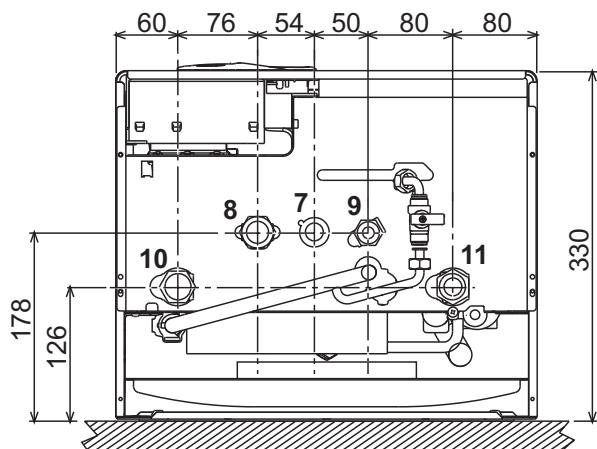
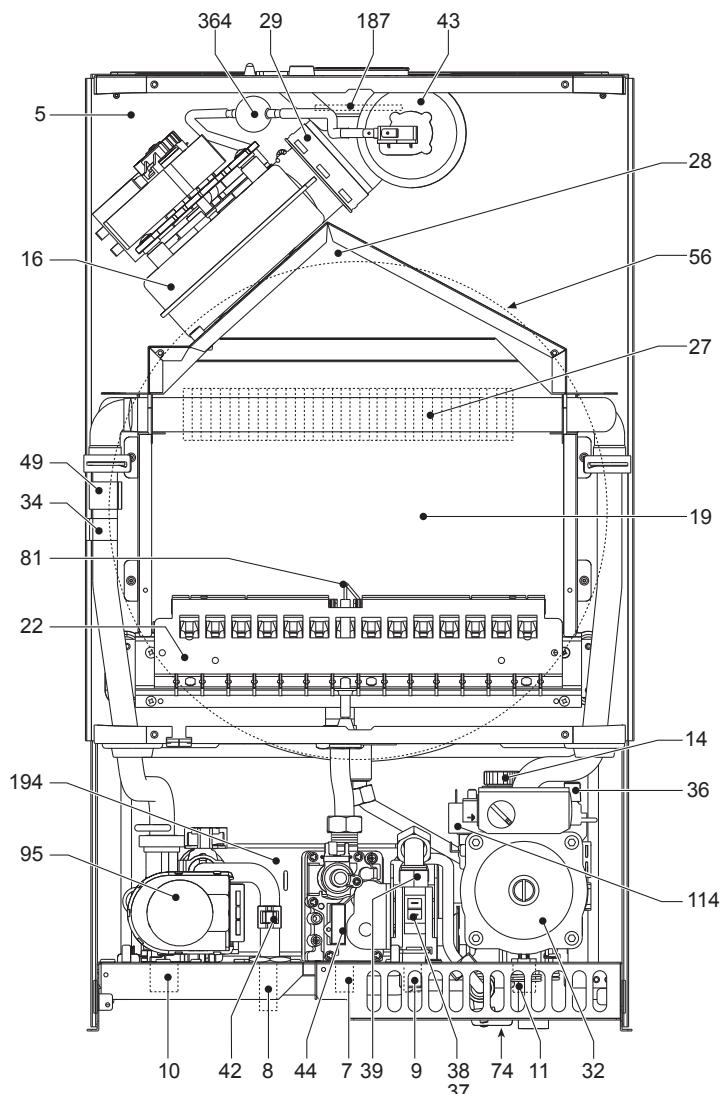
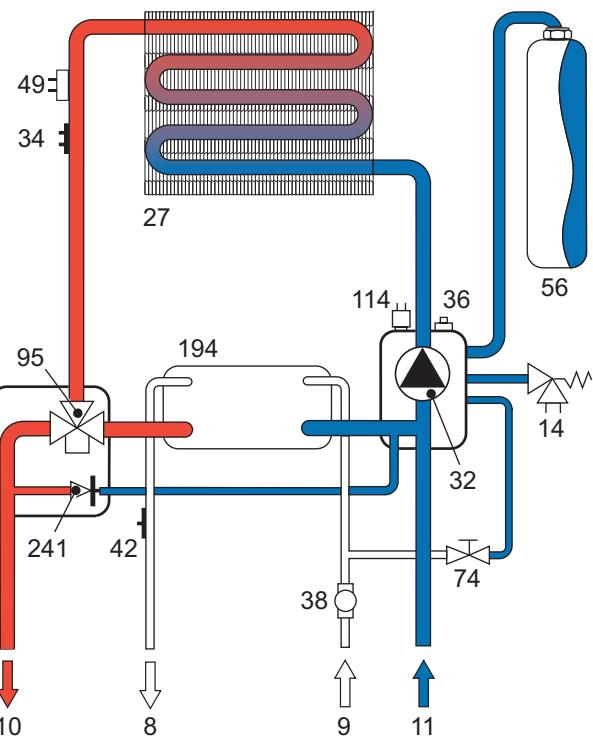
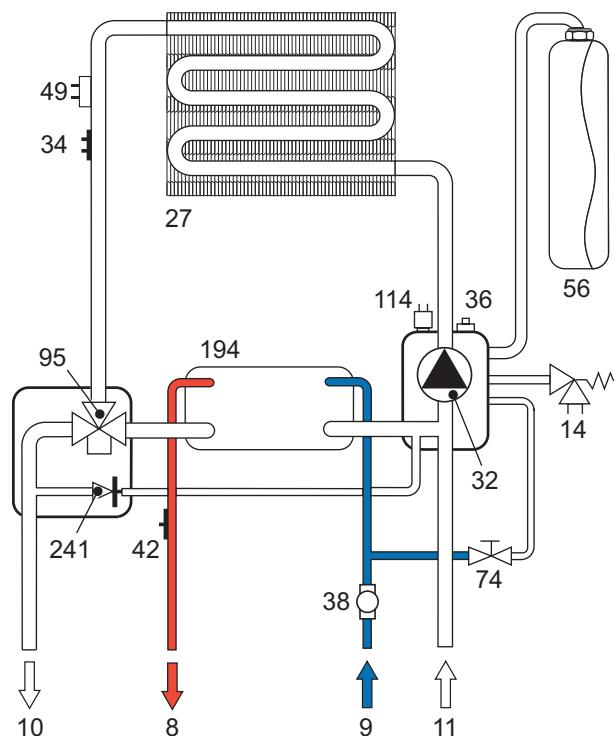

fig. 18 - Bottom view
fig. 20 - General view
fig. 21 - Heating circuit
fig. 22 - DHW circuit
**Table. 9 - Key fig. 18, fig. 20, fig. 21 and fig. 22**